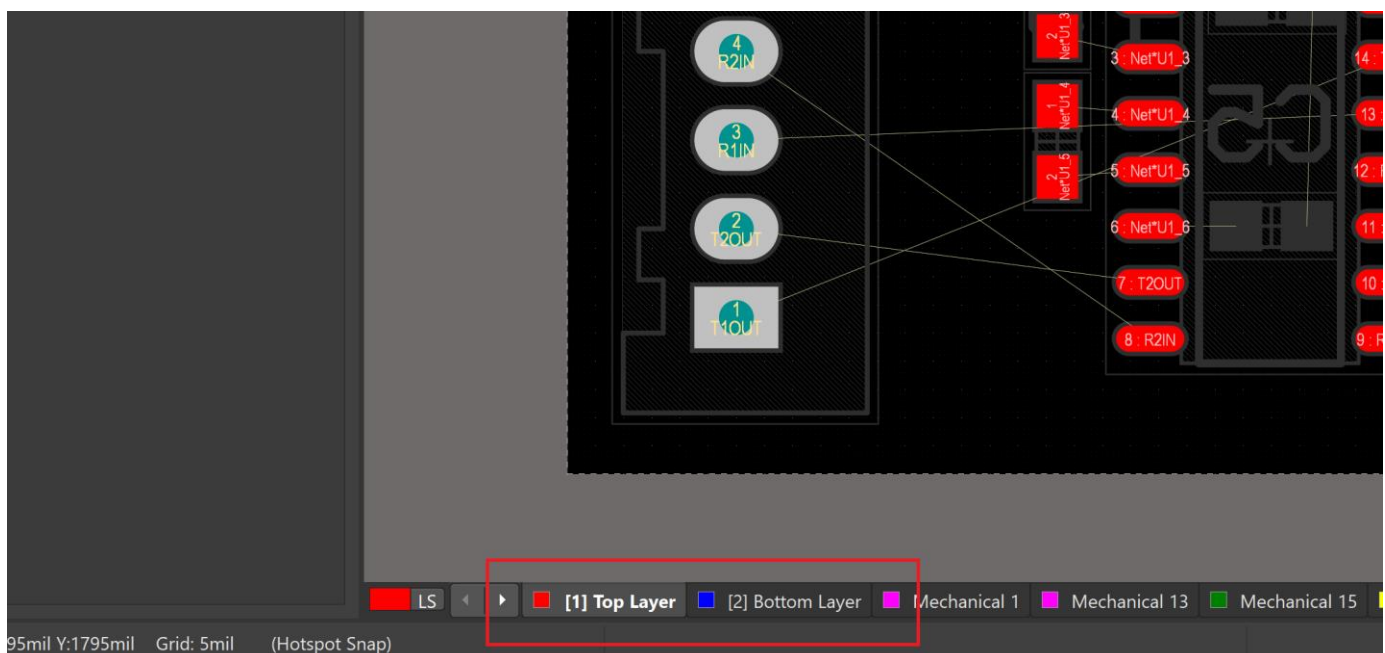

Figure 8: List to Select Between Layers to Edit
15. To specifically work on a layer, simply select it on the bottom list as shown in Figure 8.